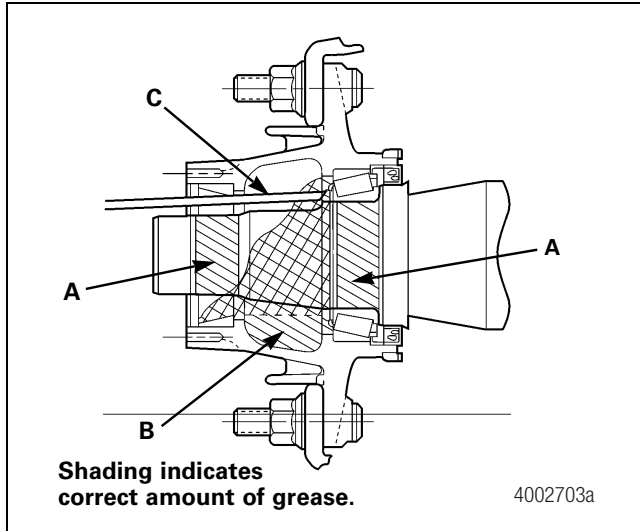

Figure 13.9
- B. Apply a light coat of synthetic grease to the spindle bearing journals. Refer to A in Figure 13.9.
- D. Fill the hub cavity with synthetic grease to the outer cup's smallest diameter. Refer to B in Figure 13.9.
- E. At the top of the spindle and as far back as possible, pump additional synthetic grease until it appears that the grease will run out. Install the outer bearing cone quickly. Refer to C in Figure 13.9.
- F. The hub cavity will be filled approximately 1/3 full with grease, from the four to the eight o'clock positions. Figure 13.9.